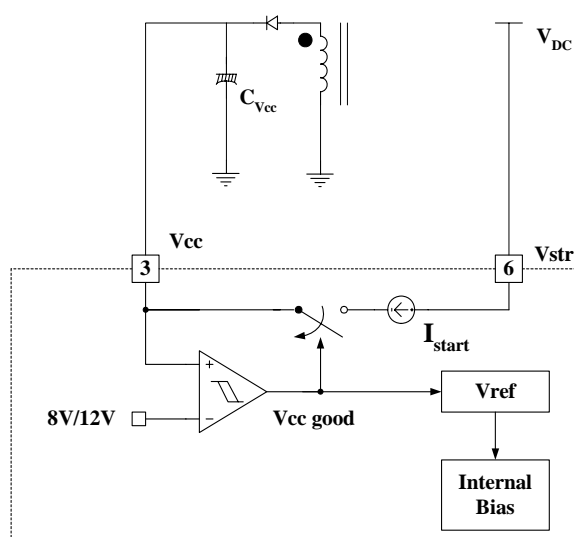

Figure 4. Internal startup circuit
1. Startup : In previous generations of Fairchild Power Switches (FPS™) the Vcc pin had an external start-up resistor to the DC input voltage line. In this generation the startup resistor is replaced by an internal high voltage current source. At startup, an internal high voltage current source supplies the internal bias and charges the external capacitor (C_{Vcc}) that is connected to the Vcc pin as illustrated in Figure 4. When Vcc reaches 12V, the FSDM0565RB begins switching and the internal high voltage current source is disabled. Then, the FSDM0565RB continues its normal switching operation and the power is supplied from the auxiliary transformer winding unless Vcc goes below the stop voltage of 8V.